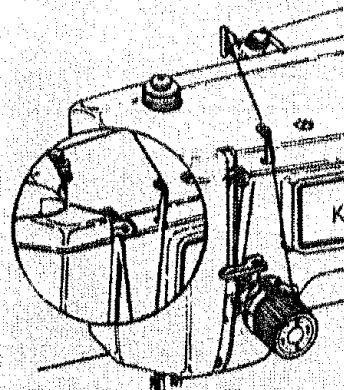

Fig 4
3. Push the speed control plug onto three-prong connector. Plug machine cord into any 110-120 volt wall outlet. Turn on power by pushing light and power switch. (See Fig. 4)
4. Continue threading through the front thread guide, hook thread into take up lever and down through path shown in Fig. 4 and 5.